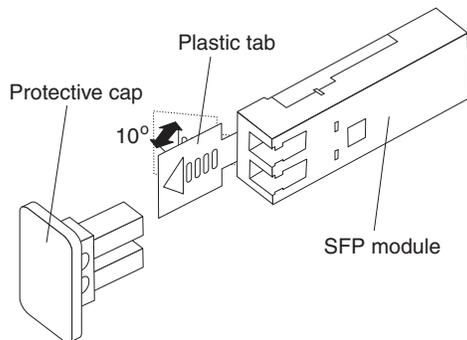

Figure 17. Unlocking the SFP module latch
2. Unlock the SFP module latch by pulling the plastic tab outward 10°, as shown in Figure 17.